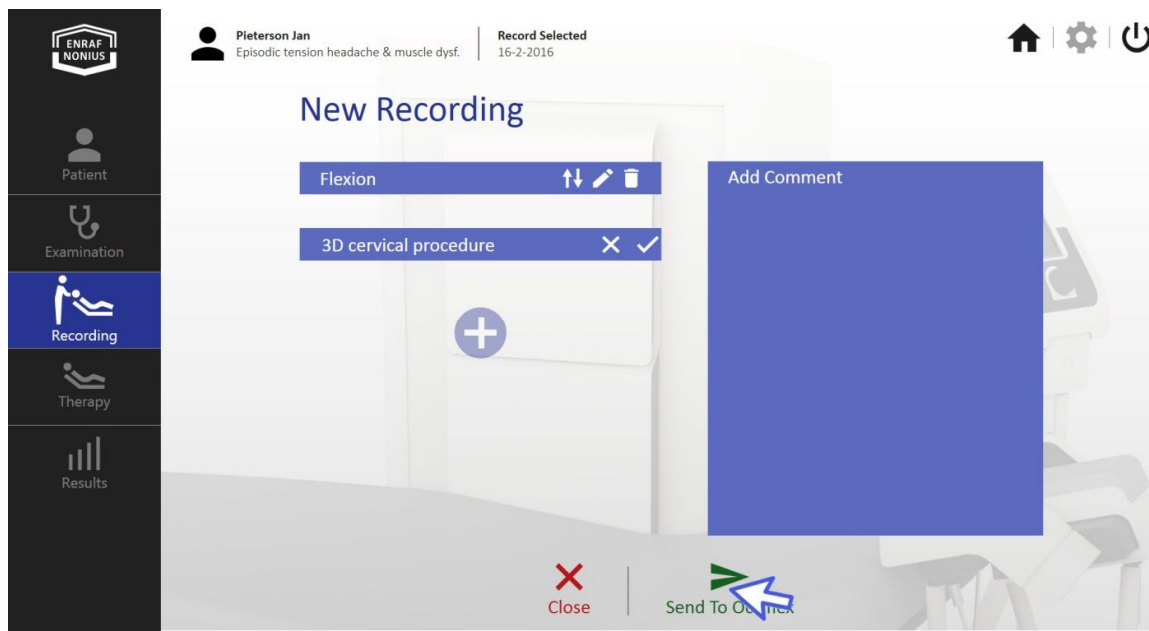

fig. 88
- Select “**Send to Occiflex**” (fig. 88).